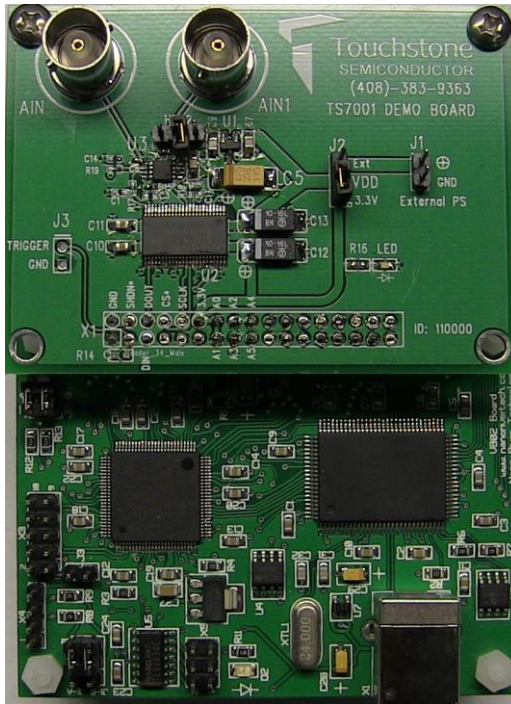
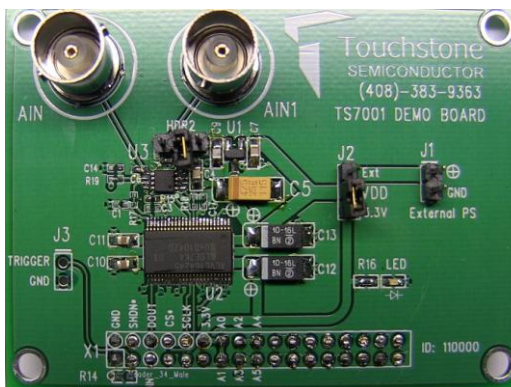
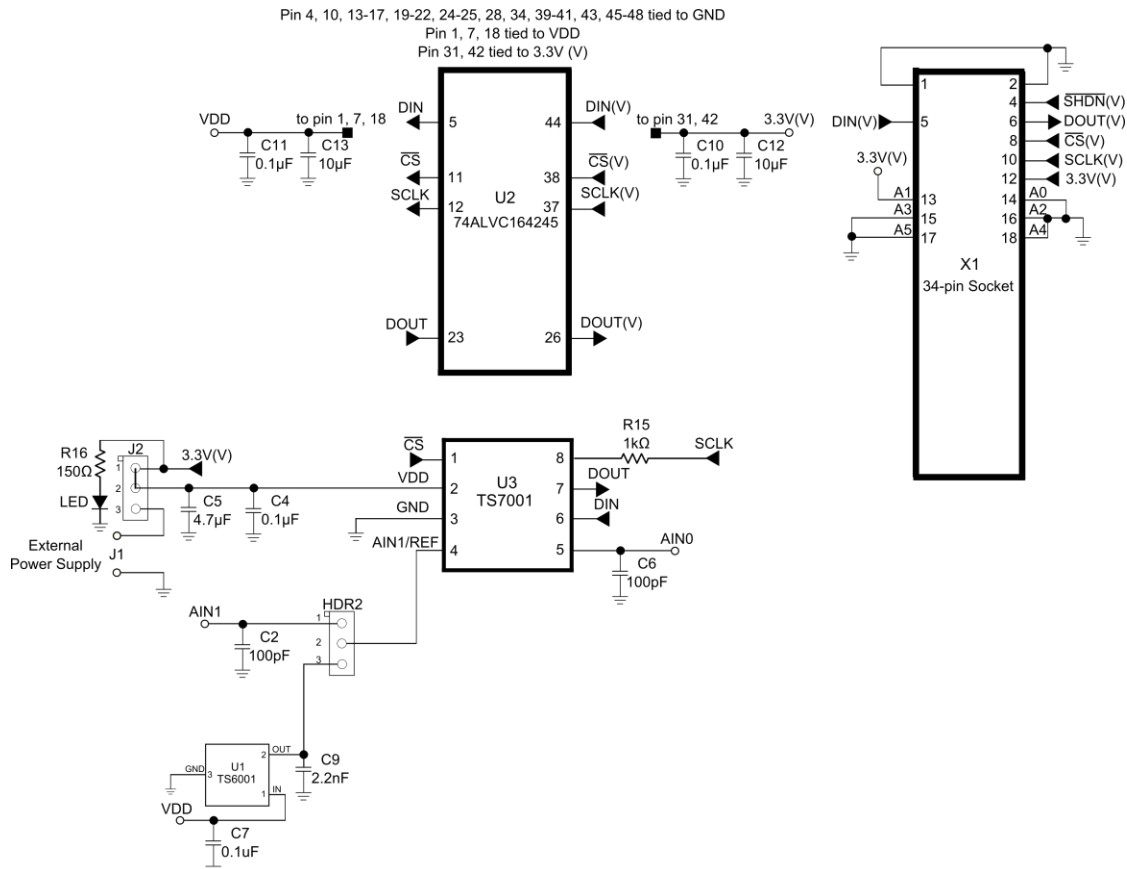

Figure 1. TS7001 Evaluation Board with Viperboard
Figure 2. TS7001 Evaluation Board (Top View)
Figure 5. TS7001 Evaluation Board Circuit
Figure 5 shows the TS7001 demo board schematic, Figure 2 and Figure 3 show a picture of the top and bottom of the TS7001 demo board, respectively. Figure 1 shows a picture of the TS7001 demo board with the viperboard connected.
In order to evaluate the TS7001, jumper J2 is to be set to position 2-3 and jumper HDR2 is to be left unconnected. The default configuration for J2 and HDR2 is 1-2 and unconnected, respectively. Refer to Figure 5 and Table 1. The default configuration on the board is for $V_{DD} = +3.3V$. For this evaluation, we will use an external +3.6V power supply and an external +3.6V reference voltage. The following steps are to be performed:
- 1) Set the voltage of the power supply between +2.7V and +3.6V and turn it off. Connect the positive terminal of the DC power supply to pin 12 labeled as “3.3V” on X1, and the ground terminal to pin 2 labeled as “GND”. Refer to Figure 5.
- 3) To measure the supply current of the TS7001, place jumper J2 to position 2-3. Then, apply an external power supply to J1. An ammeter can now be connected in series with the power supply for a static supply current measurement of the TS7001. The supply current should be less than 900 μ A. Please refer to Figure 5 and table 1.